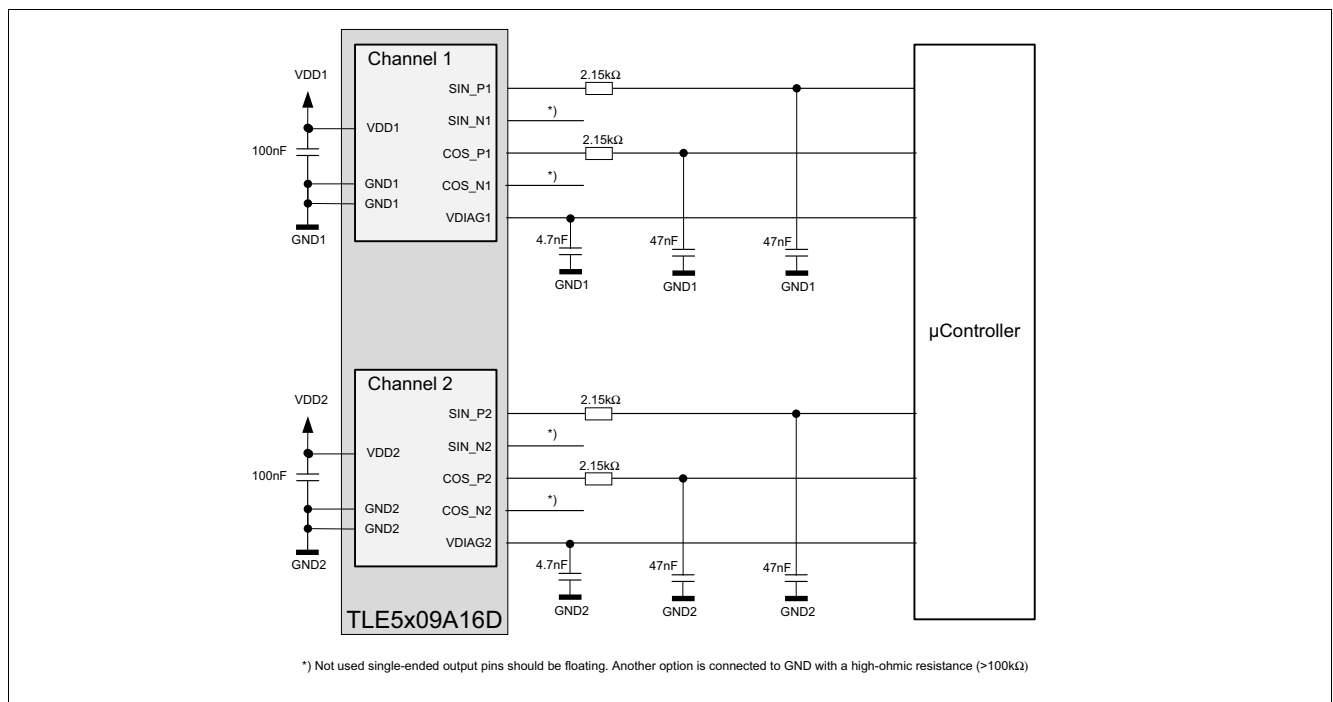
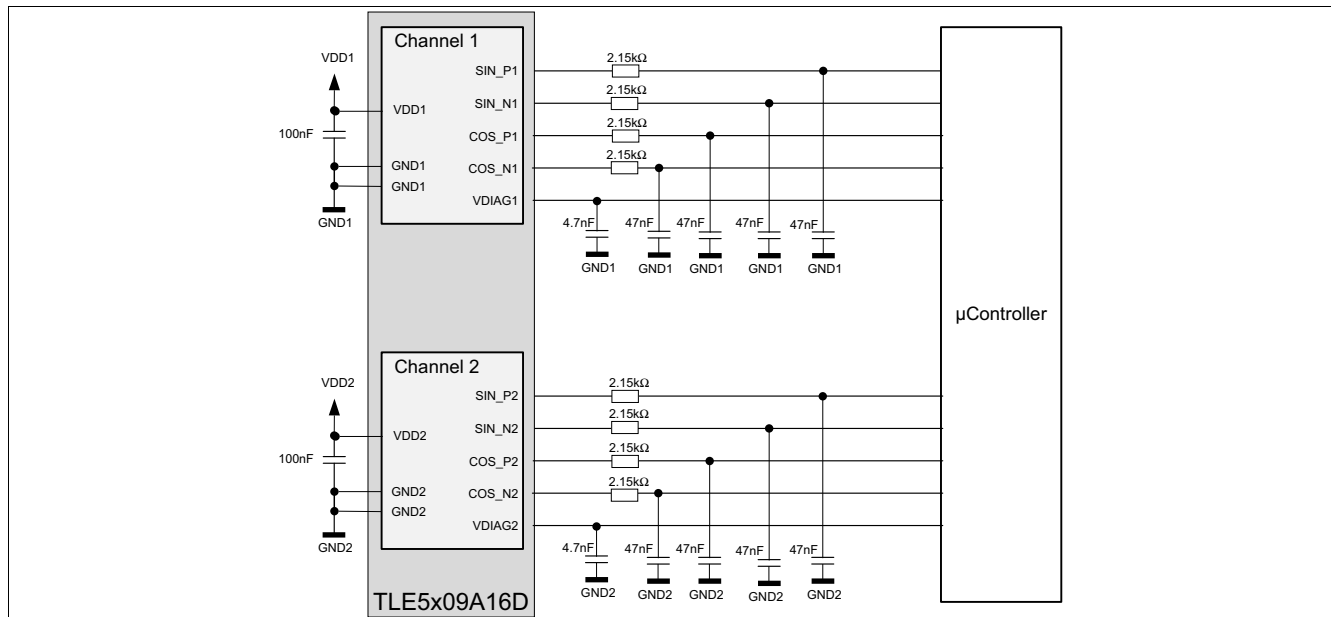

Figure 11 Application circuit for the TLE5x09A16(D) in single-ended output mode; positive output channels used
Figure 12 Application circuit for the TLE5x09A16(D) in differential output mode
The TLE5x09A16(D) sensor can be used in single-ended or differential output mode. **Figure 11** shows a typical application circuit for the TLE5x09A16(D) in single-ended output mode using the positive output channels. For single-ended operation the positive or negative output channels can be used. Unused single-ended output pins should preferably be floating or connected to GND with a high-ohmic resistance ($> 100 \text{ k}\Omega$). The TLE5x09A16(D) has separate supply pins for the GMR sensor and the AMR sensor. The microcontroller comprises up to 10 A/D inputs used to receive the sensor output signals in differential output mode, illustrated in **Figure 12**. For reasons of EMC and output filtering, the following RC low pass arrangement is recommended. The RC low pass has to be adapted according to the applied rotation speed. ¹⁾